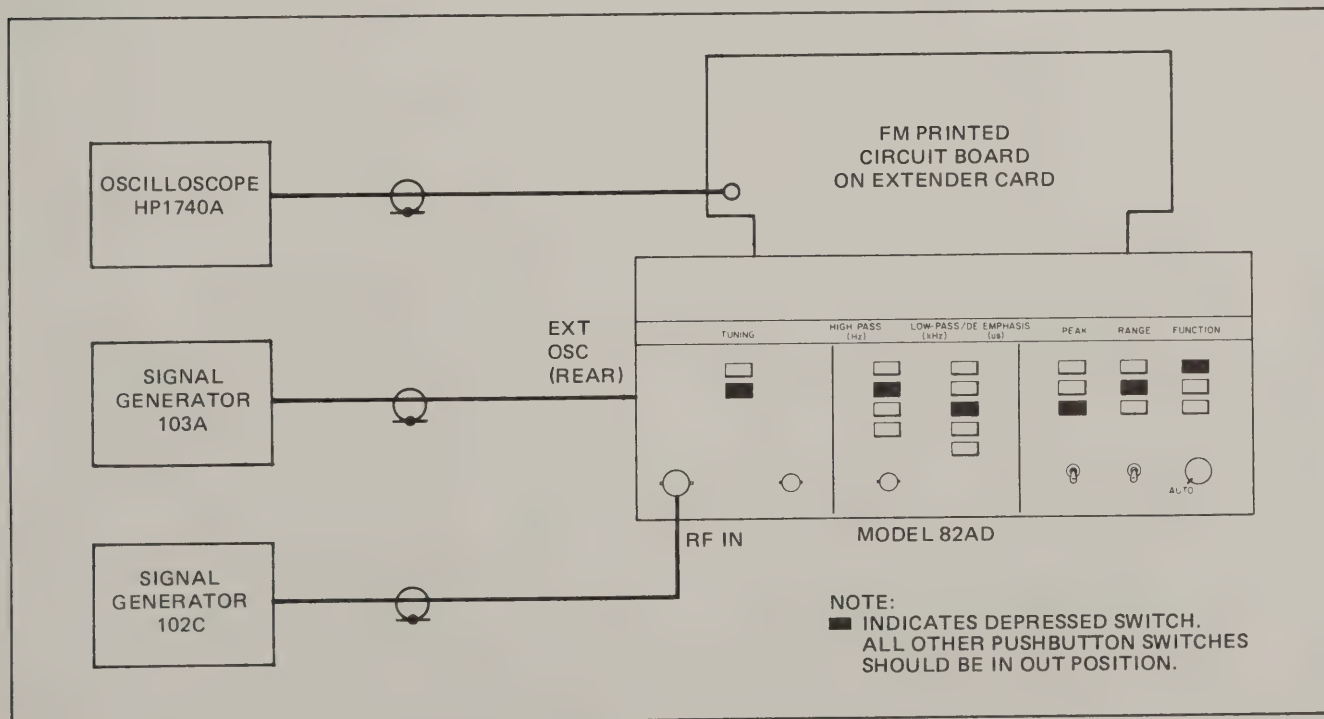

Figure 4-3 RF Circuit Adjustment Test Setup
a. Connect the equipment as shown in Figure 4-3. Depress the indicated switch.